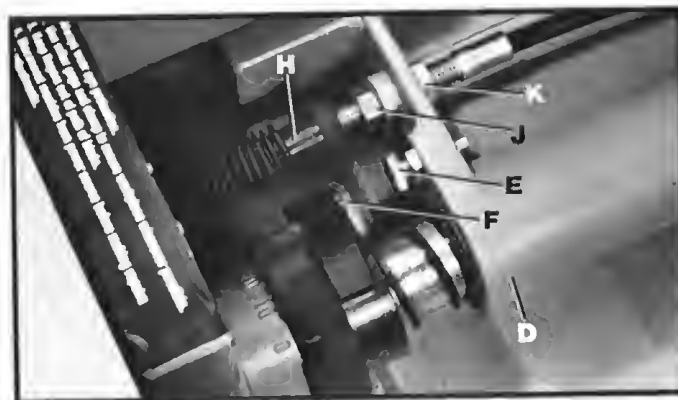

Fig. 30
When the foot pedal (A) Fig. 29, is depressed the bracket (D) Fig. 30, moves forward until the adjusting screw (E) contacts stop (F). When the machine is in this position (cutter exposed on the front of the fence) the boss located directly underneath the top of the foot pedal (B) Fig. 29, should be between 1/4 and 1/2 inch away from bottoming on bottom plate (G) Fig. 29. If it is not, an adjustment to the cable can be made by sliding back sleeve (H) Fig. 30, and adjusting the cable by tightening and loosening the two adjusting nuts (J) and (K) Fig. 30.